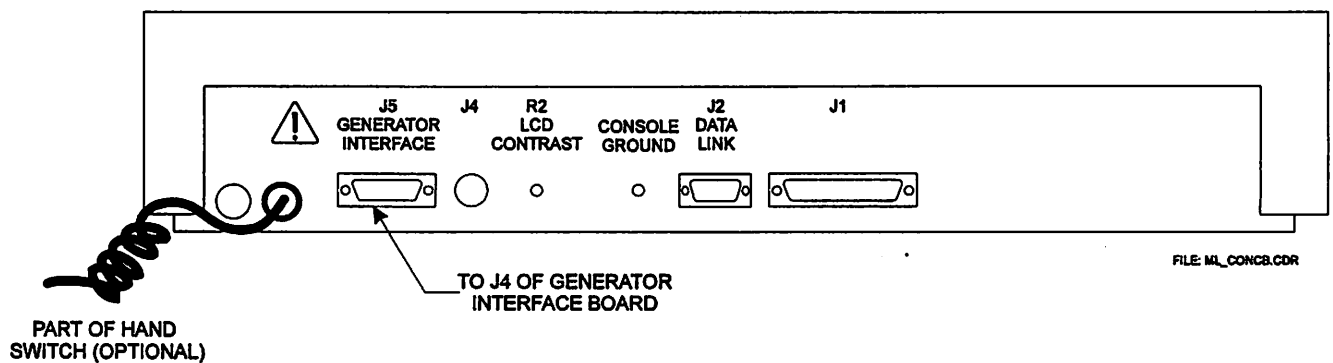
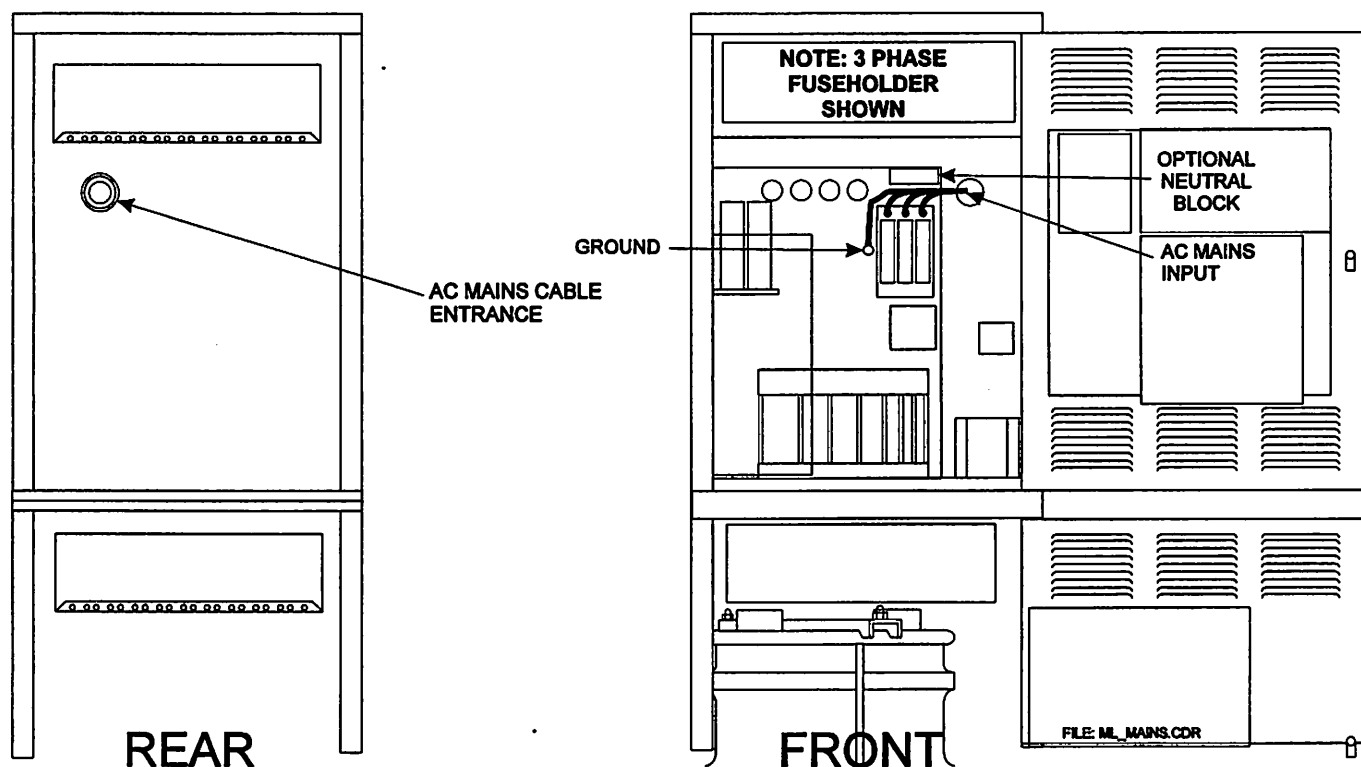

Figure 2-10: Rear of control console
Figure 2-15: Generator mains connections
2. Connect a separate ground wire, #14 AWG (2.3 mm²) or larger from the ground stud on the rear of the console (marked CONSOLE GROUND in figure 2-10) to the ground stud located to the left of the main input fuse block on the HF power supply. This is marked GROUND in figure 2-15.
3. Figure 2-10 shows the designations and functions of the connectors on the rear panel of the control console.
3. Temporarily remove the safety cover from the main fuses. Strip sufficient cable jacket to allow the ground wire to reach the main ground connector located at the left side of the main fuse block. Refer to figure 2-15